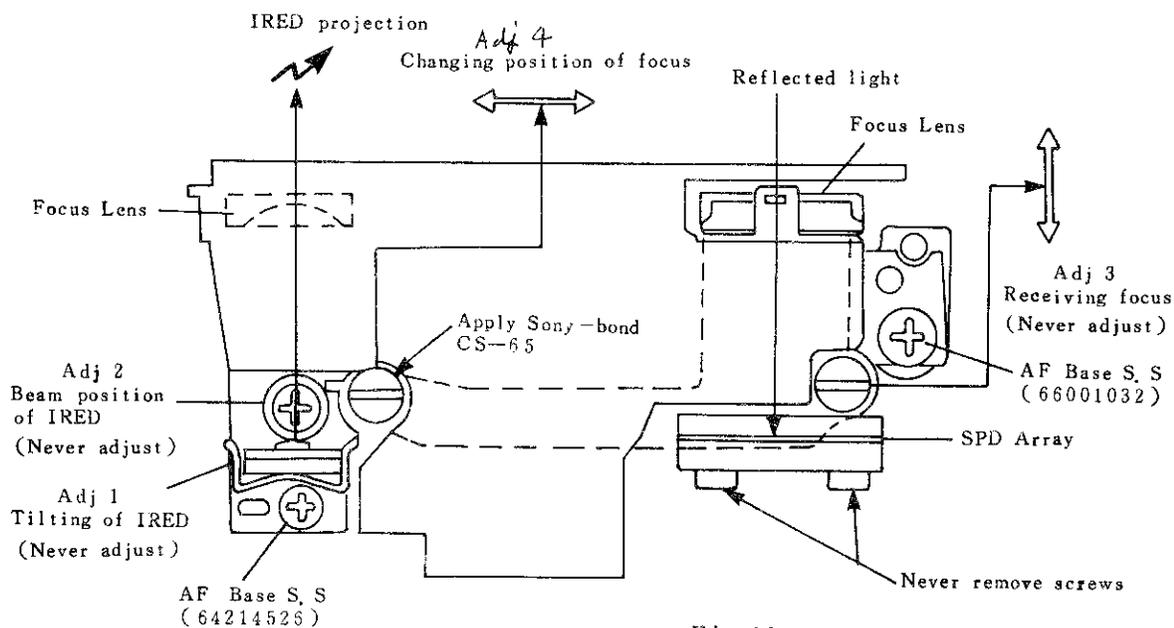
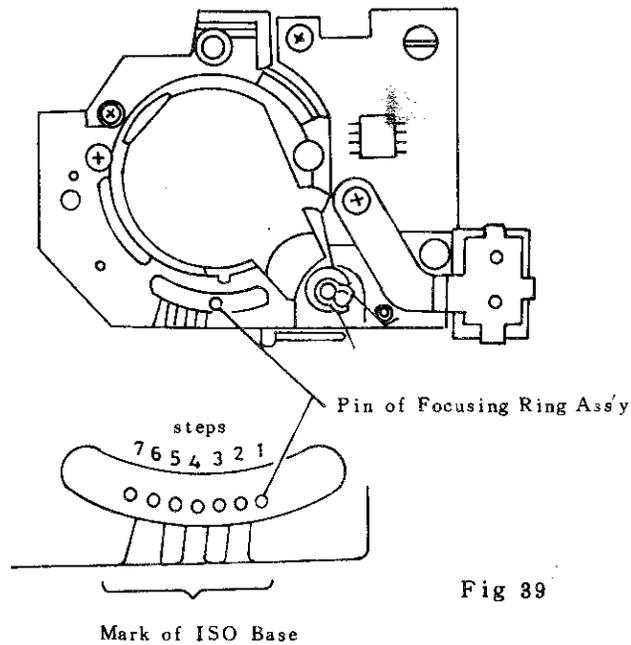

Fig 38
Fig 39
- 2) Aim the camera at the test chart and release the shutter, where the pin of Focusing Ring Ass'y is stopped at the 4 steps on the mark of ISO Base as shown in (Fig 39) (the AF Stopper (360206) engages the 4 tooth of Focusing Ring Ass'y (370041)). If does not, make adjustment by turning the screw of changing position of focus as shown in (Fig 38), Viewfinder indication LED should be lighten () When press the Release Switch halfway down.
But do not use any solvent fluid (Thinner, Methyl ether keton and Ether alcohol etc). After completing the adjustment, apply a drop of Sony-bond CS-65 agent to screw of changing position of focus as shown in (Fig 38).